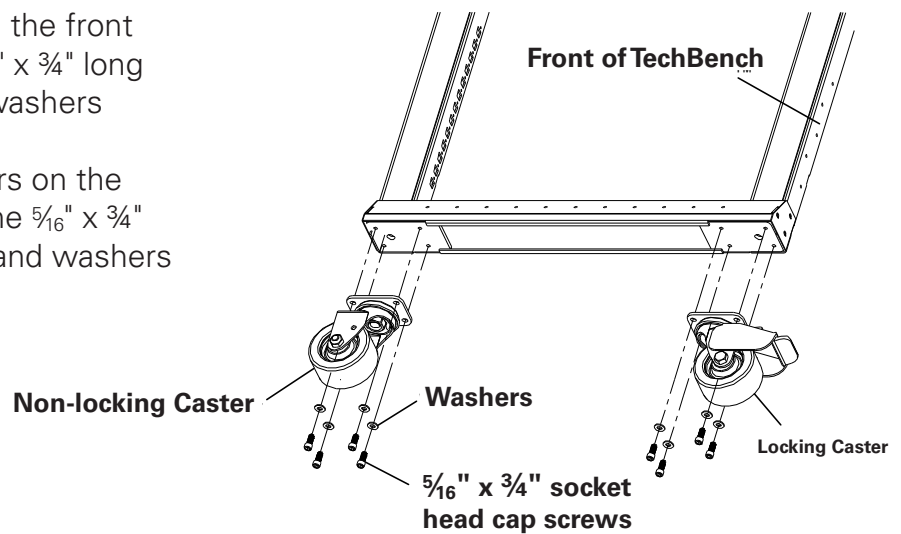

Figure 2
2. Install the **Locking** Casters on the front of the TechBench using the 5/16" x 3/4" long socket head cap screws and washers provided. See figure 2.
3. Install the **Non-locking** Casters on the rear of the TechBench using the 5/16" x 3/4" long socket head cap screws and washers provided. See figure 2.